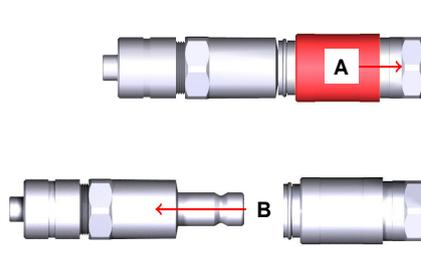

Figure 4.8.: Unplugging the self-sealing coupling
- Push the end piece (marked red in figure 4.8 on page 23) of the self-sealing quick connector in direction A, pull the coupling plug out B and immediately release the end piece again.